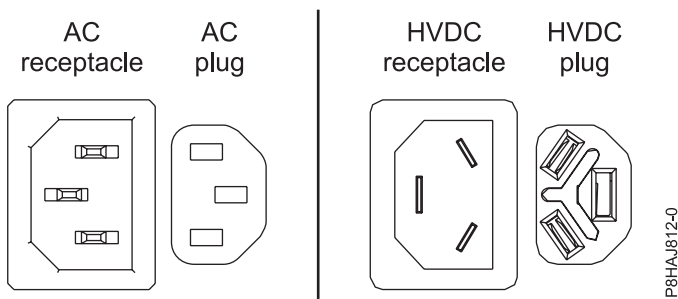
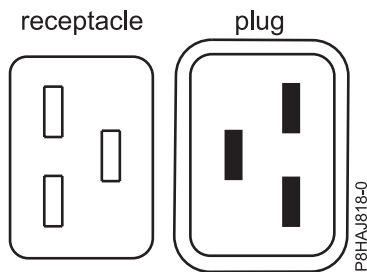
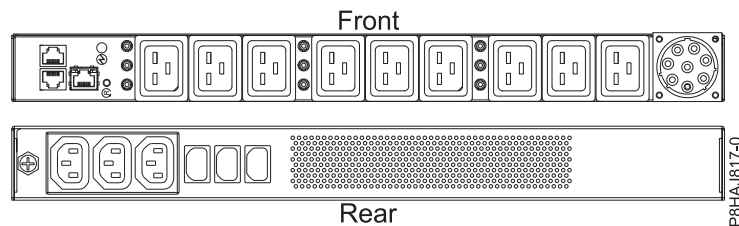

Figure 35. AC and HVDC connectors
Figure 36. Connectors for the 8408-44E system
Figure 37. PDU for the 8408-44E system
- The power cord is fastened to the system using the hook-and-loop fastener (A). If you are placing the system in a service position after disconnecting the power cords, then ensure that you unstrap the fastener.
Figure 35 shows the supported alternate current (AC) and high voltage direct current (HVDC) connectors. Figure 36 and Figure 37 show the supported connectors and power distribution unit (PDU) for 8408-44E.